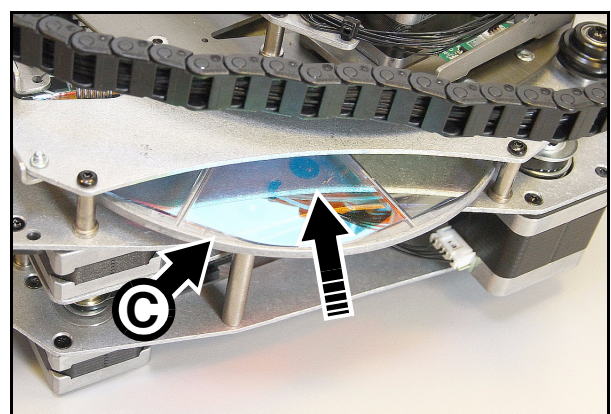

Figure 14: Color filter installation
6. See Figure 14. Slide the filter fully into its clip in the center of the color wheel. Make sure that the outer edge of the filter locates inside the lip **C** on the edge of the color wheel so that the filter is held securely.